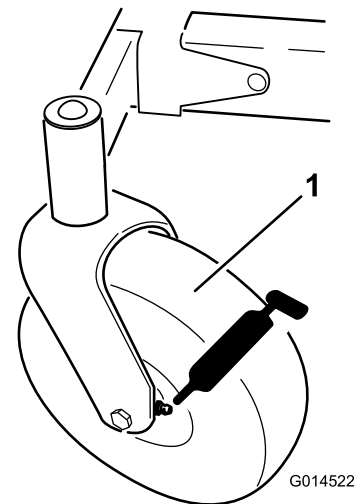
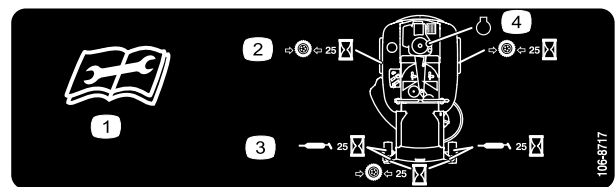

Figure 25
Figure 26
3. Clean the grease fittings (Figure 25 and Figure 26) with a rag. Make sure to scrape any paint off of the front of the fitting(s).